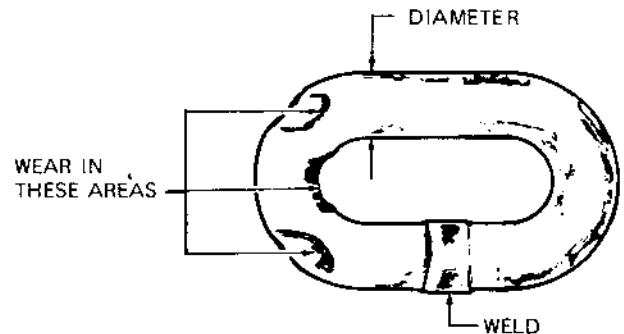

FIGURE 4-3. TYPICAL WEAR ON LINKS
b. Inspect each individual chain link for wear to diameter of the link. See figure 4-3. The nominal diameter of the link is 0.250 inch for the C-19-8 chain and 0.312 inch for the C-19-10 chain. If the diameter for any link of C-19-8 chain is less than 0.200 inch, replace the entire chain. If the diameter of any link of C-19-10 chain is less than 0.275 inch, replace the entire chain.